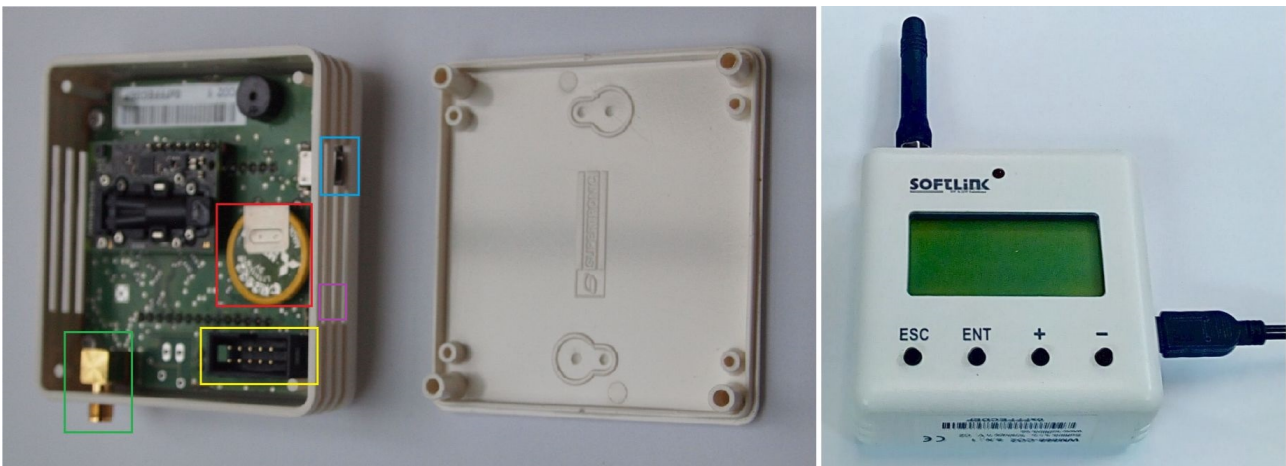

Figure 29: Detailed view of the WM868-CO2 module
A view of both parts of the WM868-CO2 module is shown in Figure 29 on the left. On the left side of the image, the position of the backup battery is marked in red on the printed circuit board, the position of the antenna connector in green, the position of the configuration connector in yellow, the position of the power connector in blue, and the position of the optical configuration sensor in purple.
- bring the power cable to the module and connect the power supply to the module by inserting the power connector. The standard "miniUSB" type power connector is located on the side of the module (marked in blue in Figure 29);